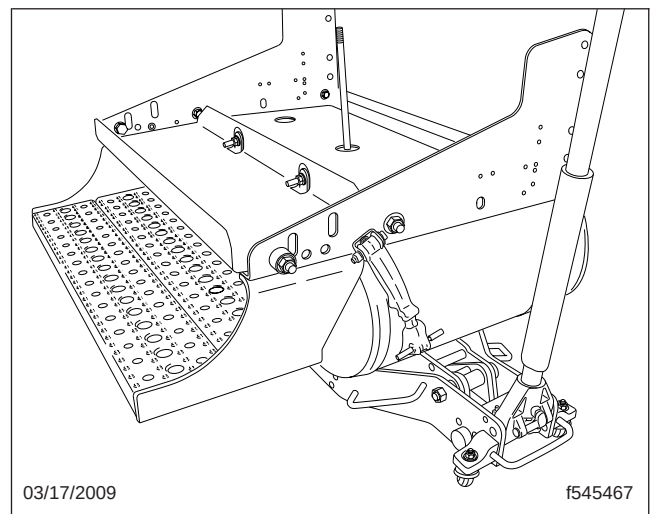

Fig. 3, Placing a Jack Under the Battery Box
6. Place a jack under the battery box/air tank assembly. See Fig. 3.